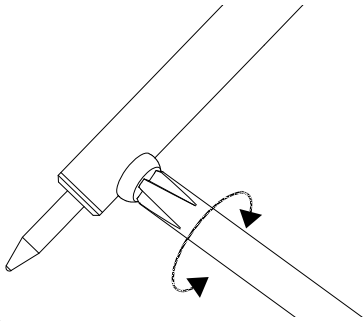

Fig. 6
1. Unscrew the nut enough to release the tip from the barrel.(Fig. 6)
3. Tighten the nut securely, ensuring you do not over tighten and cause any damage (Fig. 6)
3. Make sure Soldering Iron tip is fixed in position and secure. (Fig. 6 & 7)